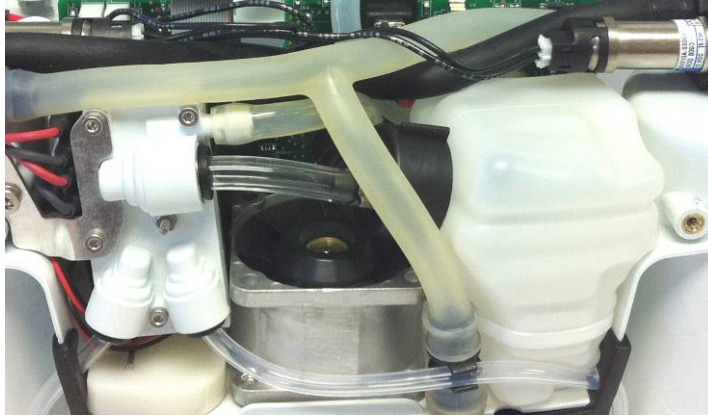

Figure 12: Properly installed accumulator
2. Plug the tubing on the new accumulator into its quick connect on the product manifold (Figure 10). Place the new accumulator in its designated space and tighten the zip tie around the accumulator so that the end of the zip tie is nearest the oxygen sensor tube away from the breath detect sensor. Cut off the excess zip tie (Figure 12).